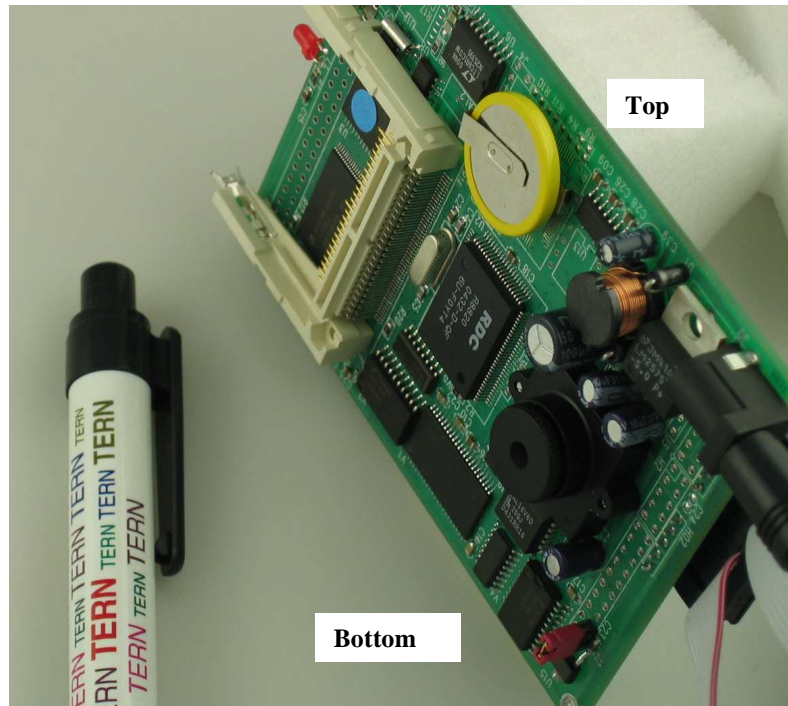

Figure 2.5: Upright picture position
6. To take a picture upright, position the *C-Eye*TM as shown in Figure 2.5.
6. To take a picture upright, position the *C-Eye™* as shown in Figure 2.5.